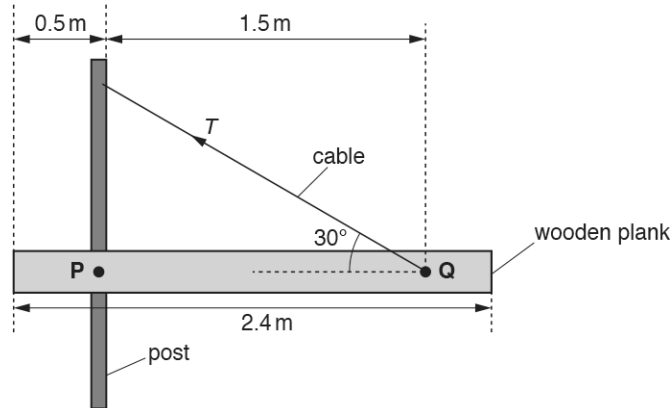

Fig. 4 (not to scale)
46. An engineer is investigating the tension in a steel cable supporting a uniform wooden plank as shown in Fig. 4.
The plank is 2.4 m long and has a mass of 50 kg. It is pivoted at point P to a vertical post. The cable is fixed to the plank at point Q and to the vertical post as shown in Fig. 4. The cable is at an angle of  $30^\circ$  to the plank. The plank is in equilibrium and resting in a horizontal position.
Calculate the extension  $x$  of the cable shown in Fig. 4.